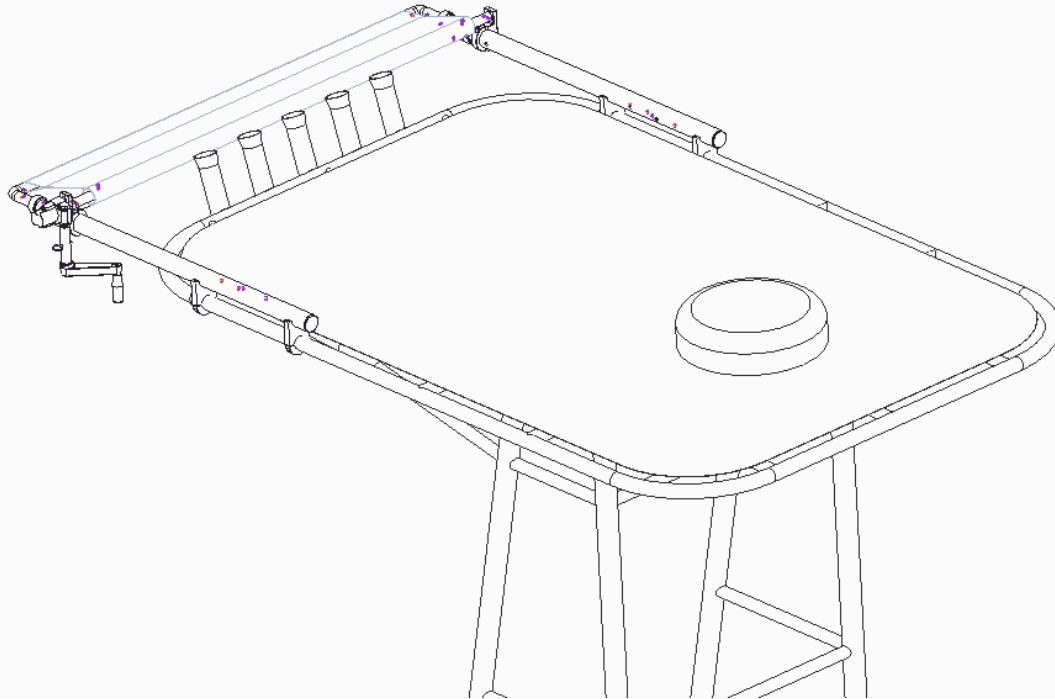

Figure 4
- A. Place your shade assembly from Step 1 onto the bracket groups. See Figure 4.